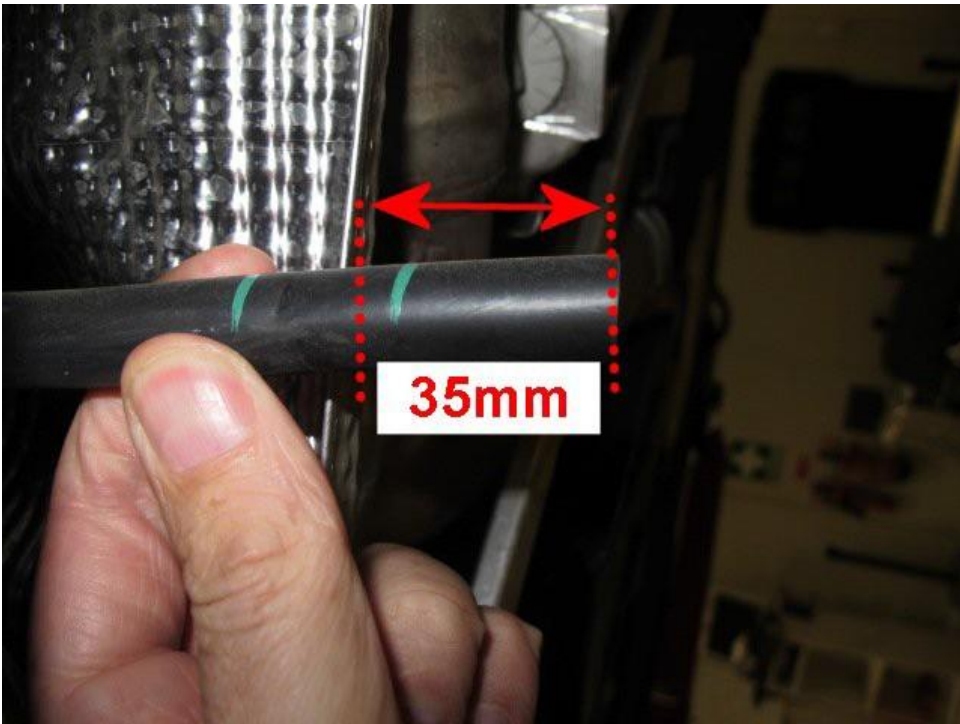

Figure 4
3) Referring to Figure 4- Cut 35mm from the end of the air supply unit exhaust hose